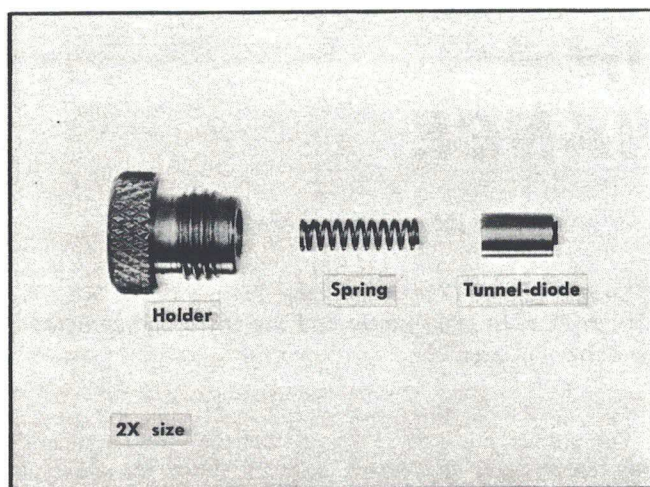

Fig. 4-1. Tunnel Diode assembly showing the spring and tunnel diode separated from the knurled hollow screw.
1. Remove the knurled screw from the back of the block connected to the front panel while the screw is pointed upward, to prevent the loss of the tunnel diode, or the spring underneath the tunnel diode. The tunnel diode and the spring are contained in the knurled hollow screw, and they will separate from the screw. See Fig. 4-1.